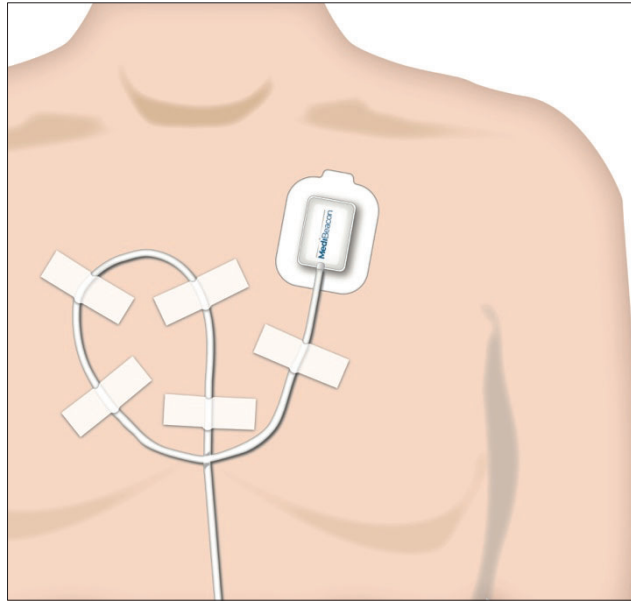

Figure 7. Typical TGFR Sensor placement and cable anchoring
- Secure the sensor cable as shown in Figure 7. Anchoring the cable with tape in five places will inhibit cable movement and the potential for errors during a session.